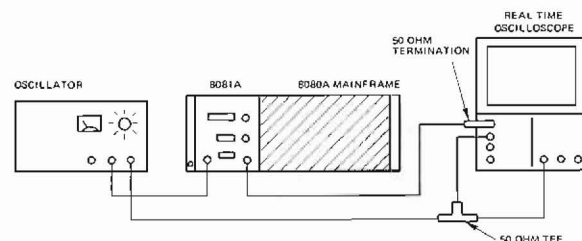

Figure 4-4. External Gate Mode (Slow) Test Setup
1. Set up the equipment as shown in figure 4-4 and set the controls as follows: